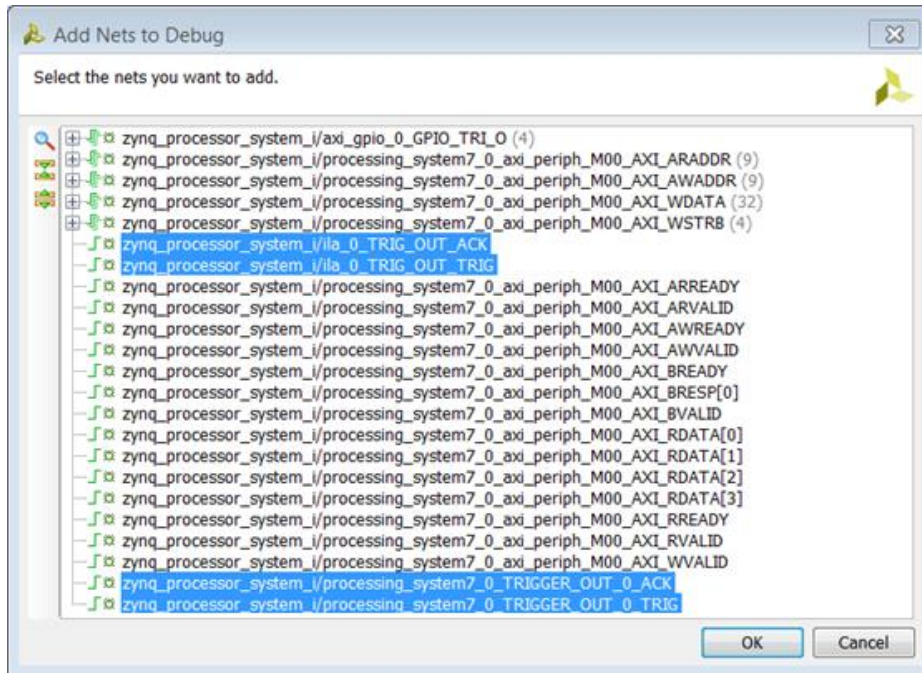

Figure 67: Add Nets Connected to Cross-Trigger Pins
- Select the following nets, as shown in Figure 67: